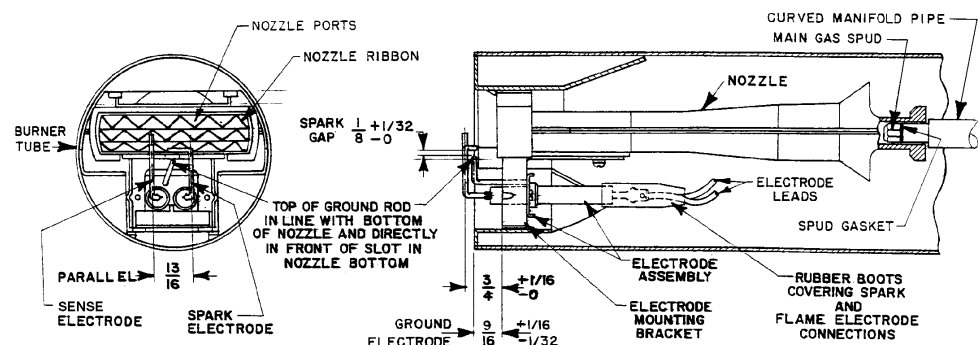

Figure 7: Nozzle Assembly and Electrode Assembly
□ Service will normally consist of inspection and cleaning, particularly the removal of any dirt or scale in the nozzle ribbon. Check the electrodes for serious burning and the insulators for cracks. The electrode assembly is not adjustable, if defective; replace with a new one. When reconnecting the electrode leads refer to Figure 7 for the correct hookup. Be sure to replace the rubber boots over the electrodes and treat the electrode leads with care. Because of high voltage any damage to the insulation is a potential leak path.